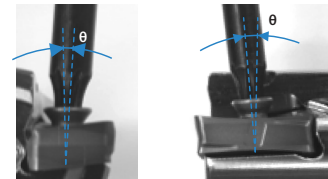

Fig. 2
3. Tighten M3 screws (SB-3065TRP) slightly inclined from the insert surface. (Ref. to Fig. 2)